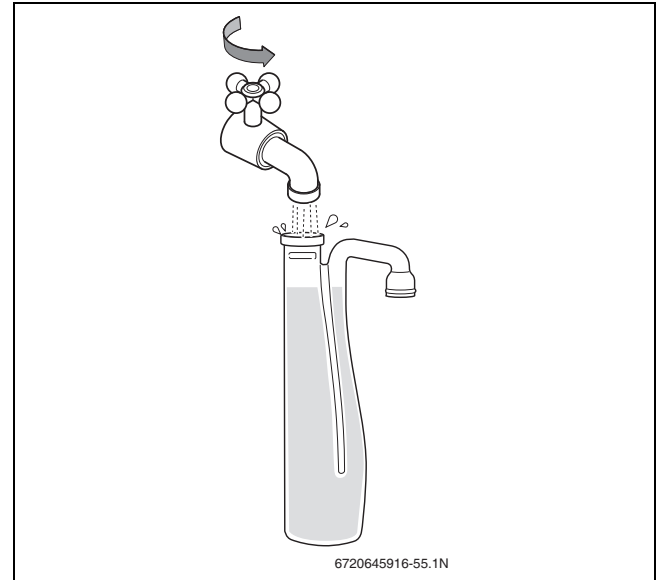

Fig. 58 Filling the condensate trap with water
- ▶ Fill the condensate trap with water (→ fig. 58). For disconnecting the condensate trap (→ § 12.3.5, page 47).